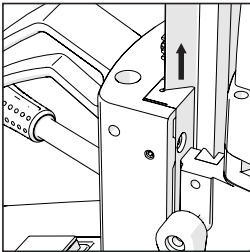

Fig. 14
**Note:** S28MAG has two Gibs (**Fig. 14**) one of which is adjustable.